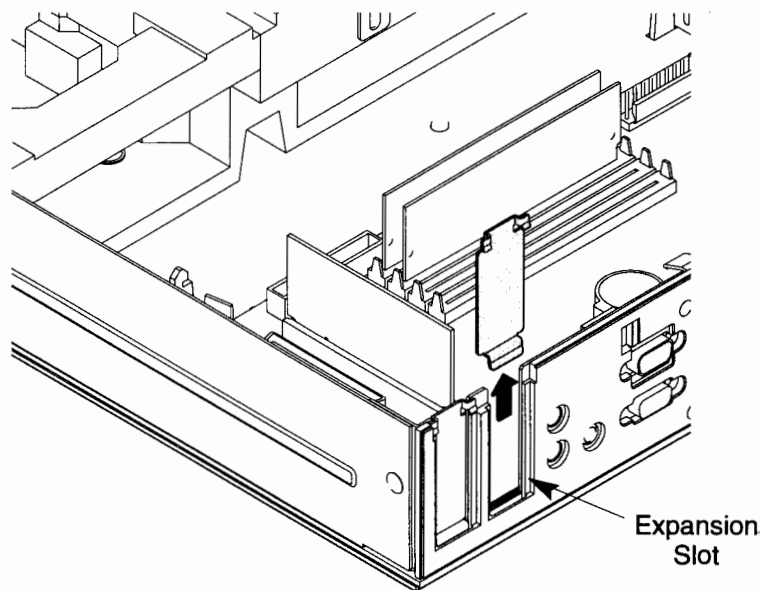

Figure B-21. Removing the Blank Panel from the Expansion Slot
2. Remove the blank panel from the expansion slot, as shown in Figure B-21.